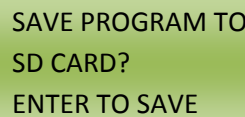

Figure 14.2
- a. Programmed data is stored internally in Flash ROM (memory) as well as EEPROM (electronically erasable), which is non-volatile memory. All programmed data through this option in the Utilities Menu can be backed up to the SD card (on board Hard Drive). This allows the current programming to be saved to the SD Card that is located in the back of the LCD / Keypad Display and will not be lost if something were to happen. To Save to the SD Card, press ENTER on the keypad. See Figure 14.2 for an example.